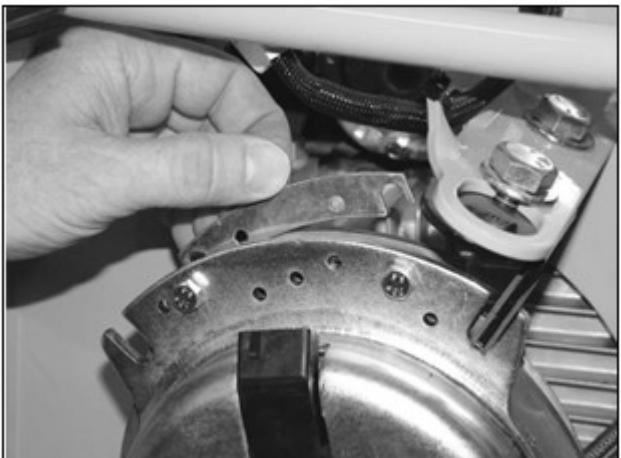

Figure 27
The air gap is only adjustable on clutches that have a removable shim (see Figure 27).
2. Using needle nose pliers, or by hand, take hold of the tab and remove shim (do not discard shim until proper clutch function has been confirmed). [Figure 27]